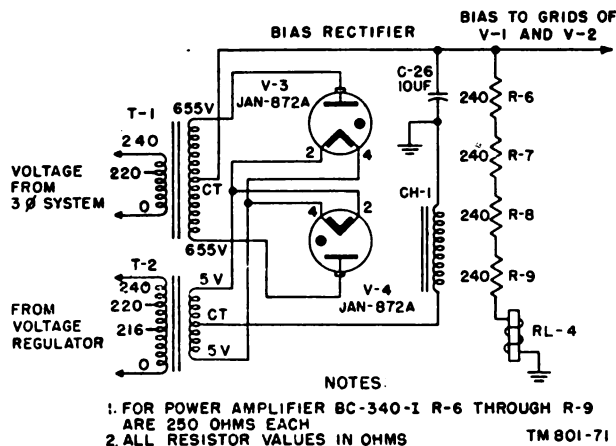

Figure 48. Power Amplifier BC-340-(*) (except model BC-340), functional diagram of grid bias rectifier.
48. Grid Bias Rectifier (fig. 48)